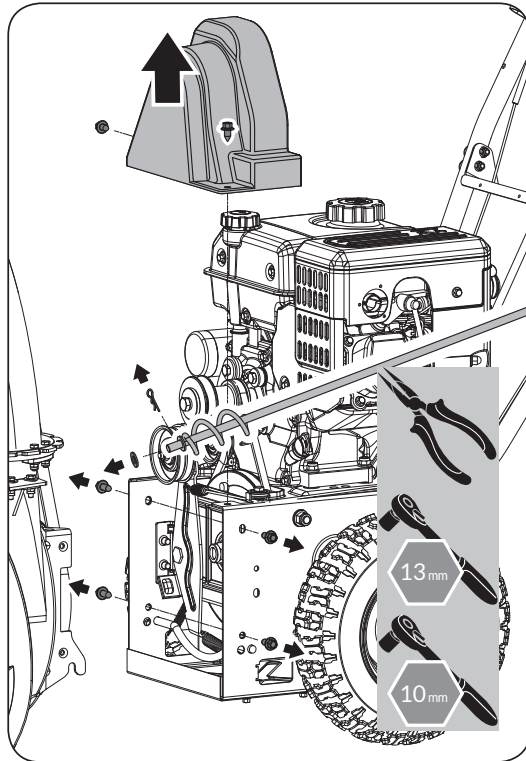

Figure 18c
5. Remove the screws securing auger housing to the frame (two on each side). Tip auger housing and frame. (See **Figure 18c**)